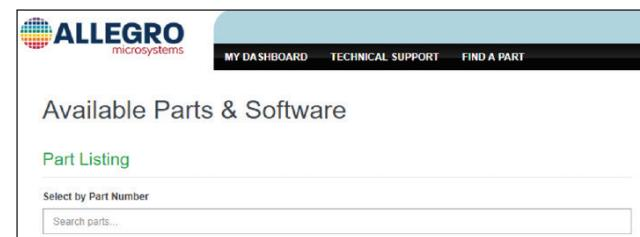

Figure 4: Select by Part Number on the Available Parts and Software Page
- In the select by part number search bar (see Figure 4), search for ACS70311